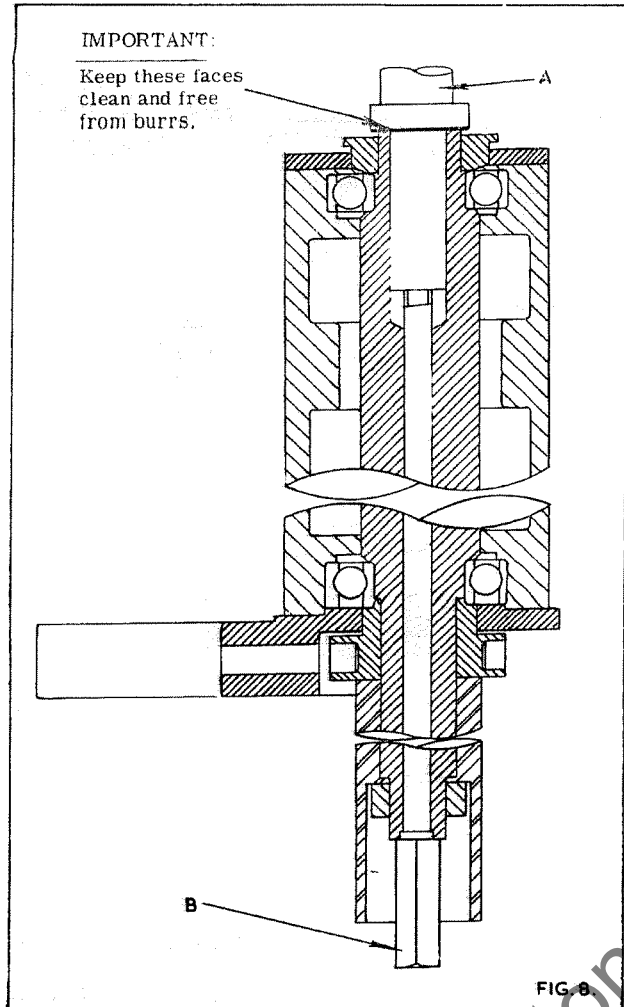

FIG. 8
1. Insert the work spindle "A" in fig. 8 into the main spindle through the hole in the table top. Great care should be taken to ensure that the work spindle and main spindle seatings are completely free from all burrs, dirt and rust. A thin film of oil should be put on the work spindle seatings before inserting. Line the peg in the work spindle with the slot in the main spindle and press spindle onto seating.